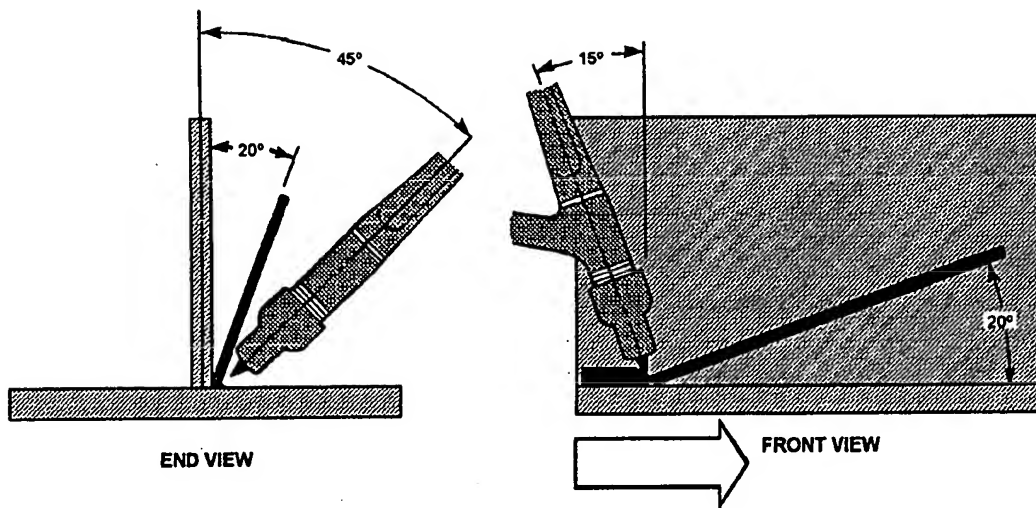

Figure 8-17.—GTA welding a tee joint.
**LAP AND TEE JOINTS.**— In chapter 3, we said that lap and tee joints are welded using the fillet weld. Fillet welds are slightly awkward to make using the GTA welding process because of the gas nozzle. Once you establish the arc, you should pay close attention to the molten puddle. Figures 8-17 and 8-18 show the correct torch and rod angles for the tee and lap joints.